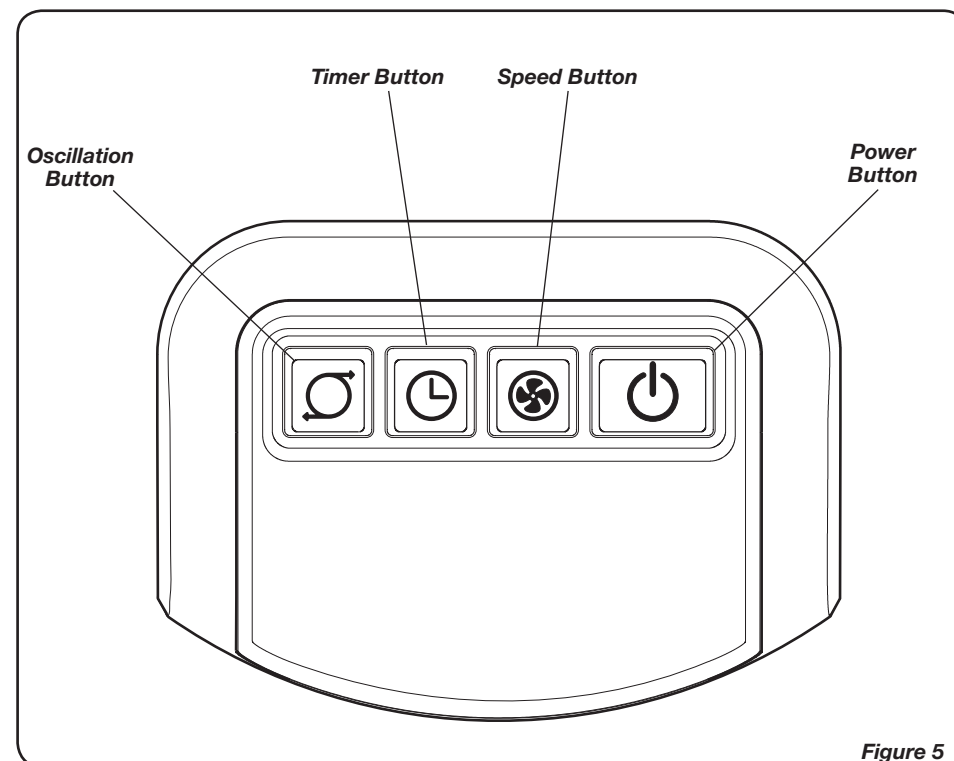
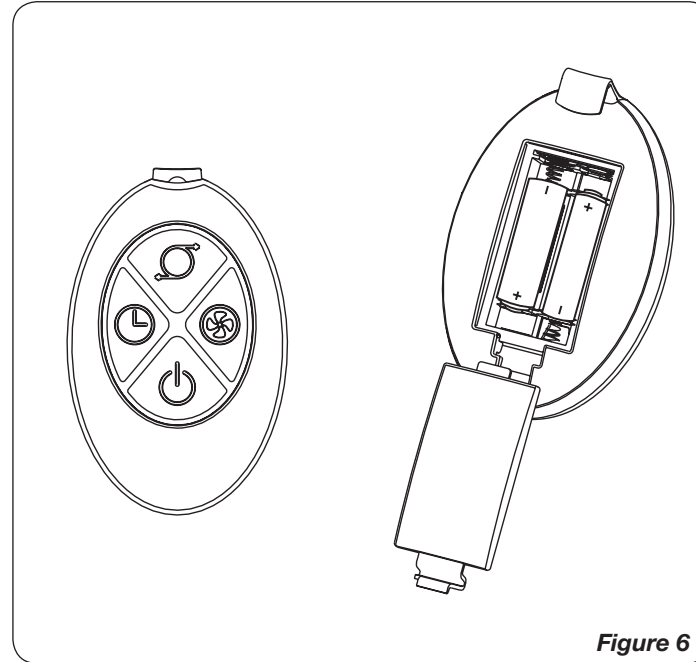

Figure 5
Figure 6
OPERATION (Figures 5 and 6)
This Fan may be operated by the Manual Controls located on top of the unit (as shown in *Figure 5*) or by the Remote Control (shown in *Figure 6*).
REMOTE CONTROL (Figures 6 and 7)
1. Install batteries (not supplied) as shown in Figure 6. The battery is size "AAA".